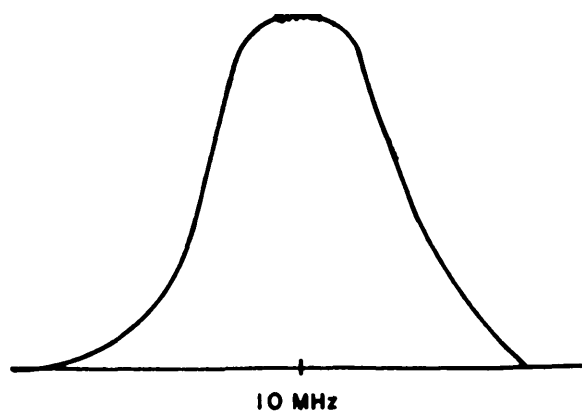

Figure 4-11. Typical, 20-80 MHz Tuner, Mixer Output Bandpass Response
- (2) Adjust the sweep generator to produce an approximately 1 MHz wide sweep centered at 10 MHz. Use the sweep generator internal 10 MHz marker.
- (3) Adjust the oscilloscope and sweep generator to display the response and center it about the 10 MHz marker.
- (4) Adjust capacitor A2A2C16 to peak the response and center it about the 10 MHz marker.
- (5) A typical response is shown in Figure 4-11.